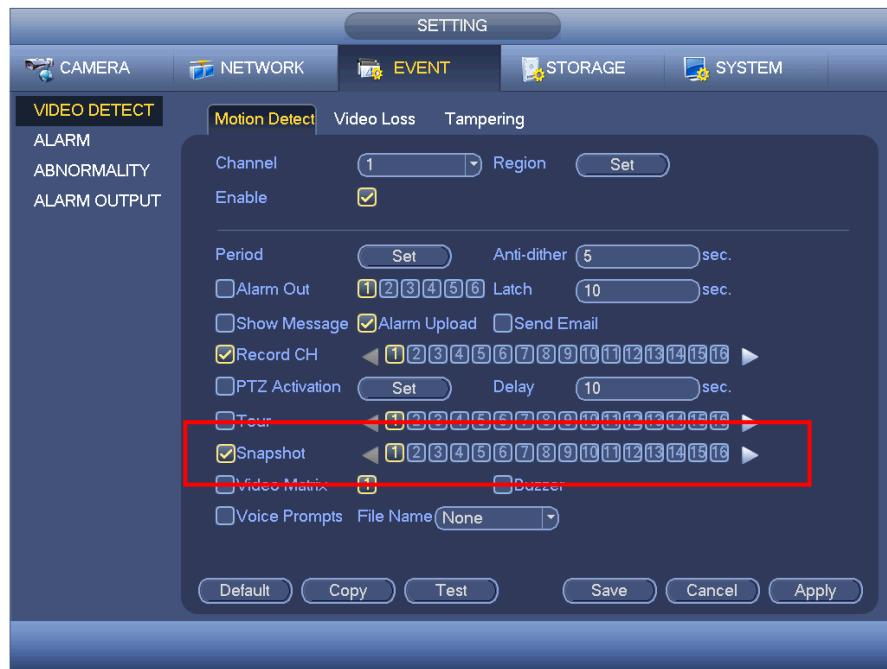
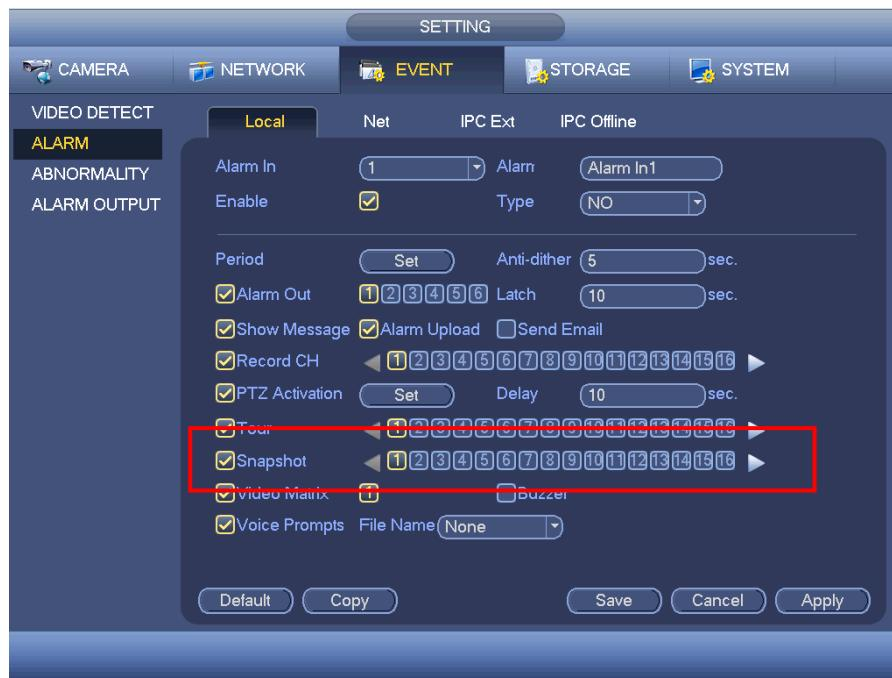

Figure 4-118
Figure 4-119
- In main menu, from Setting->Event->Detect, please enable snapshot function for specified channels (Figure 4-118). Or In main menu, from Setting->Event->Alarm (Figure 4-119) please enable snapshot function for specified channels.